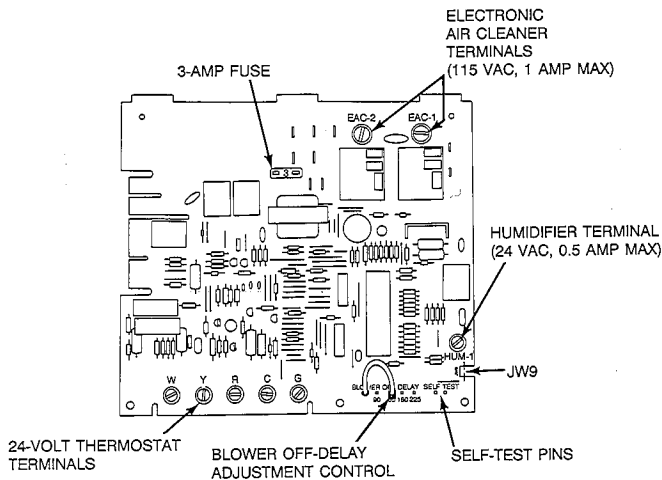

Fig. 11—Control Center
24-VOLT WIRING — Make field 24-volt connections at the 24-volt terminal strip. (See Fig. 11.) Connect terminal Y as shown in Fig. 12 for proper operation in cooling mode. Use only AWG No. 18 color-coded wire.
1. Self-test—The furnace features a self-test system to help diagnose a system problem in the case of a component failure. Two test pins (ST-1 and ST-2) are located in the upper right-hand corner of the control board as shown in Fig. 11. To initiate the self-test procedure, momentarily short across the two pins (approximately 0.5 seconds).